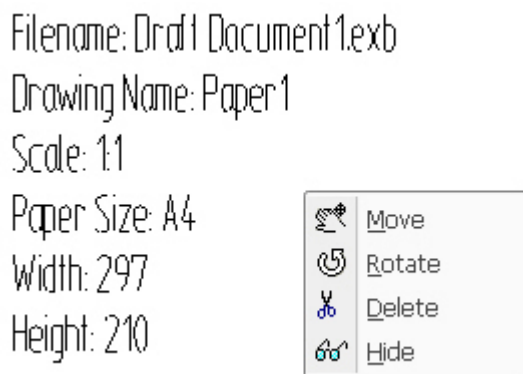

Figure 7-19 Adjust menu manually
- Select typeset print task unit, in the preview area select the drawing to be edited, then right click, the corresponding dialog will pop up, then You can click related button, as shown in figure 7-19.